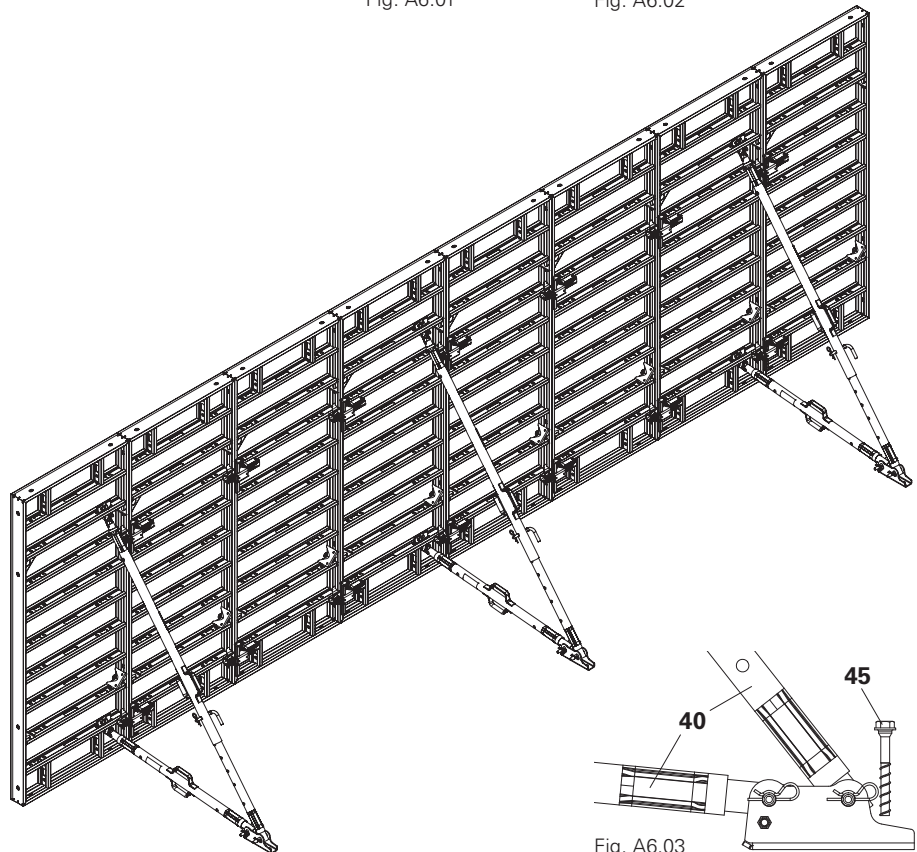

Fig. A6.03
2. Mount Base Plate, e.g. with PERI Anchor Bolts 14/20 x 130 or similar (45). (Fig. A6.03)